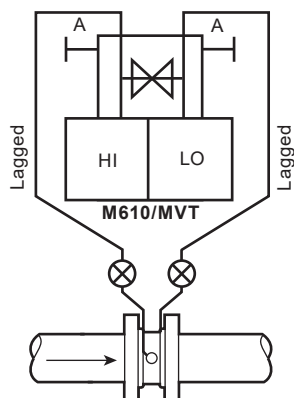

Fig. 16 Gases
If, for space limitations the configuration described in Figure 16 is not possible, then the arrangement shown opposite should be used. The condensate pots shown at B are only required if the gas is wet.
- 7.2.4** Using a suitable milliammeter, check that the output of the DP transmitter is 4.00 mA across terminals CK+ and CK- as shown in Figure 16. (If a flow display is being used, it should read zero.) Set the mode switch (SW1) to the 'zero' position and adjust the zero output using the output adjustment until a value of exactly 4.00 mA is achieved.